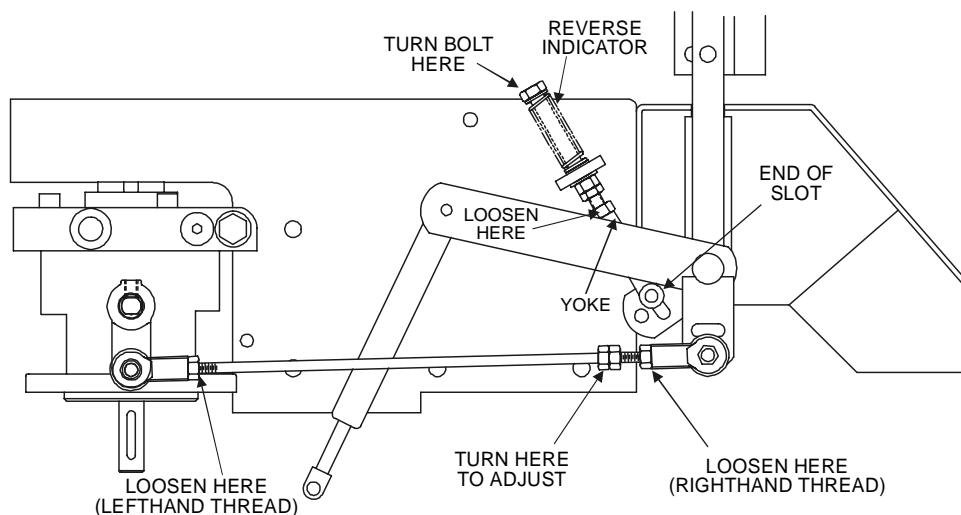

FIGURE 9
- c) Begin with either the left or right motion control lever. Move lever to the neutral position and pull lever back until the clevis pin (on arm below pivot shaft) contacts the end of the slot (just beginning to put pressure on spring), See Figure 9.
- e) Loosen lock nuts from the ball joints at each end of the RH pump control linkage (See Figure 9).
- h) Bring the RH motion control lever into the neutral position. Adjust RH pump control rod length by rotating the double nuts on the rod in the appropriate direction until the wheels slightly creep in reverse (See Figure 9). Move the motion control lever to the reverse position and while applying slight pressure to the lever, allow the reverse indicator spring to bring the levers back to neutral. The wheel must stop turning or slightly creep in reverse.